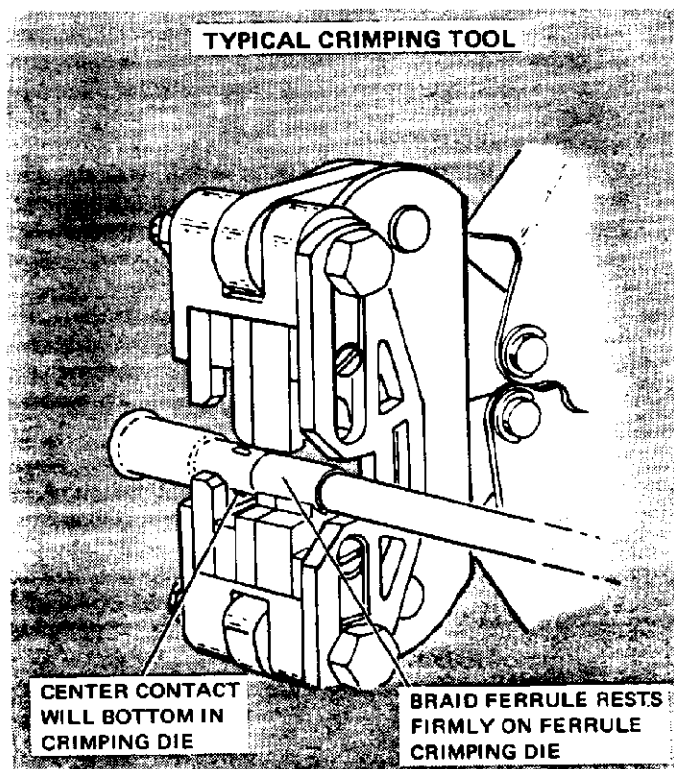

Fig. 2
- The Crimping tools have multiple sets of Dies, see Figure 2, to crimp the Braid Ferrule and center contact of Pin or Socket. Ferrule and center contact are crimped at the same time.
- Make certain that center contact and braid Ferrule are resting firmly on Crimping dies. See Figure 2.